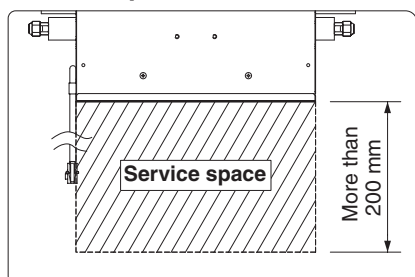

Fig. 2-276
- When installing the valve, ensure a service space of 200 mm or more (Fig. 2-276).